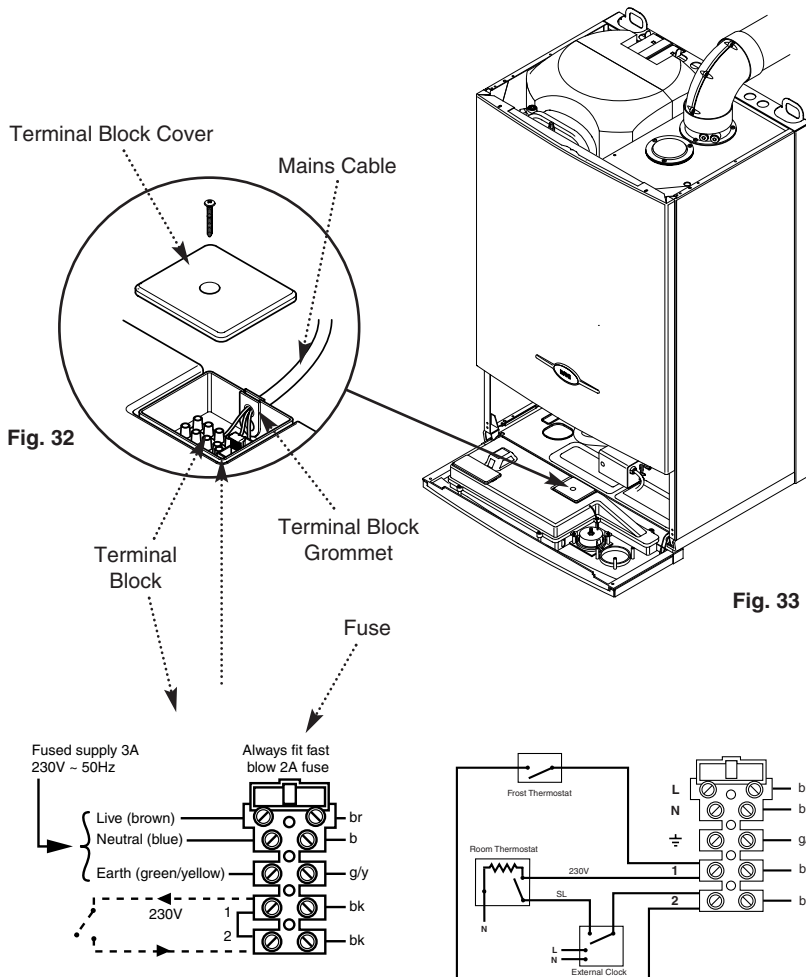

Fig. 32a
7. To connect external control(s) remove the link between terminals 1 & 2. the 230V supply at terminal 1 must be connected to the external control. The switched output from the external control must be connected to terminal 2 (Fig. 32a).
NOTE: If the room thermostat being used incorporates an anticipator it **MUST** be wired as shown in Fig. 32a.